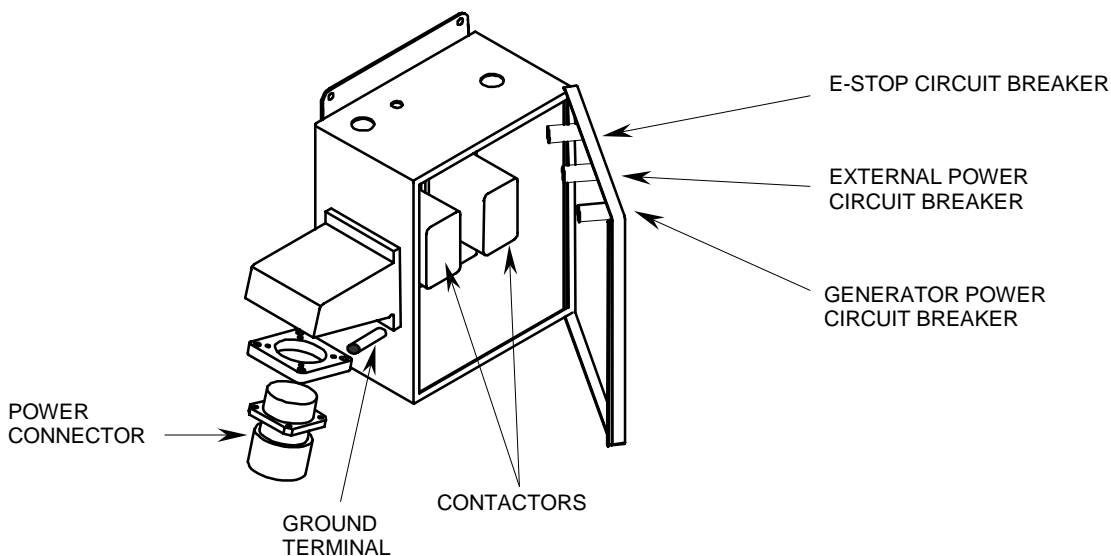

Figure 1. Power Entrance Panel.
**Power Connector:** Make sure all power is turned off at the Main Control Panel. Referring to Figure 1, disconnect the source power plug at the Power Entrance Panel and attach plug cover. Label and disconnect power leads from the external power contactor. Remove and retain connector mounting hardware and remove the connector. Install the replacement connector and retained hardware. Reconnect power leads at the contactor.
**Ground Terminal:** Make sure all power is turned off at the Main Control Panel. Referring to Figure 1, disconnect the source power plug at the Power Entrance Panel and attach plug cover. Remove the mounting hardware from inside the Power Entrance Panel. Disconnect the green ground wires and remove the ground terminal from the outside of the panel box. Install the new ground terminal using existing hardware. Reconnect green wires.
**Contactors:** Make sure all power is turned off at the Main Control Panel. Referring to Figure 1, disconnect the source power plug at the Power Entrance Panel and attach plug cover. Label and disconnect spade terminals. Remove and retain the contactor mounting hardware. Install the replacement contactor using retained hardware.